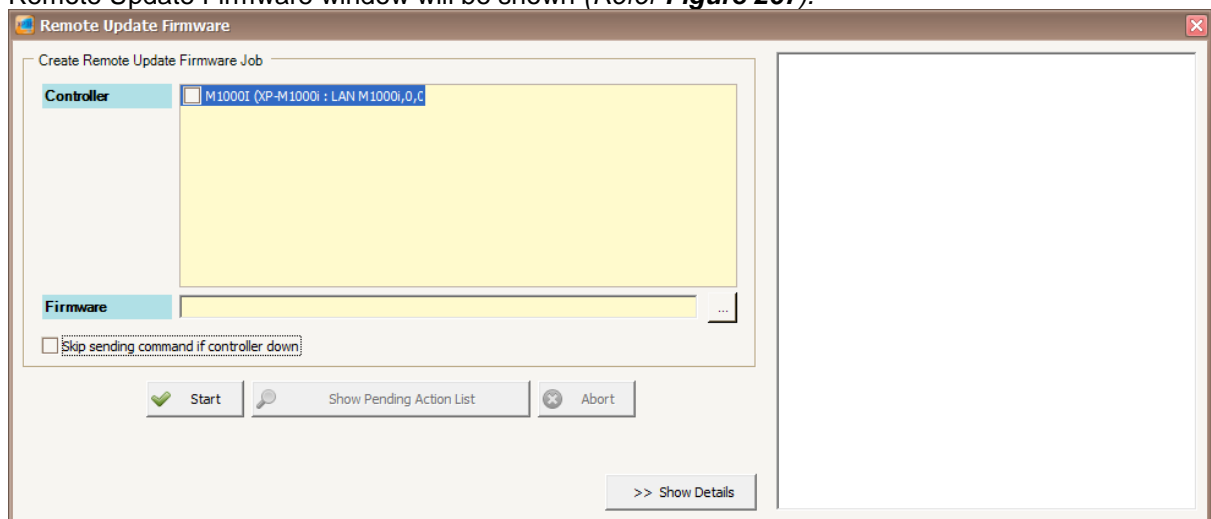

Figure 267 - Remote Update Firmware
2. Remote Update Firmware window will be shown (*Refer **Figure 267***).